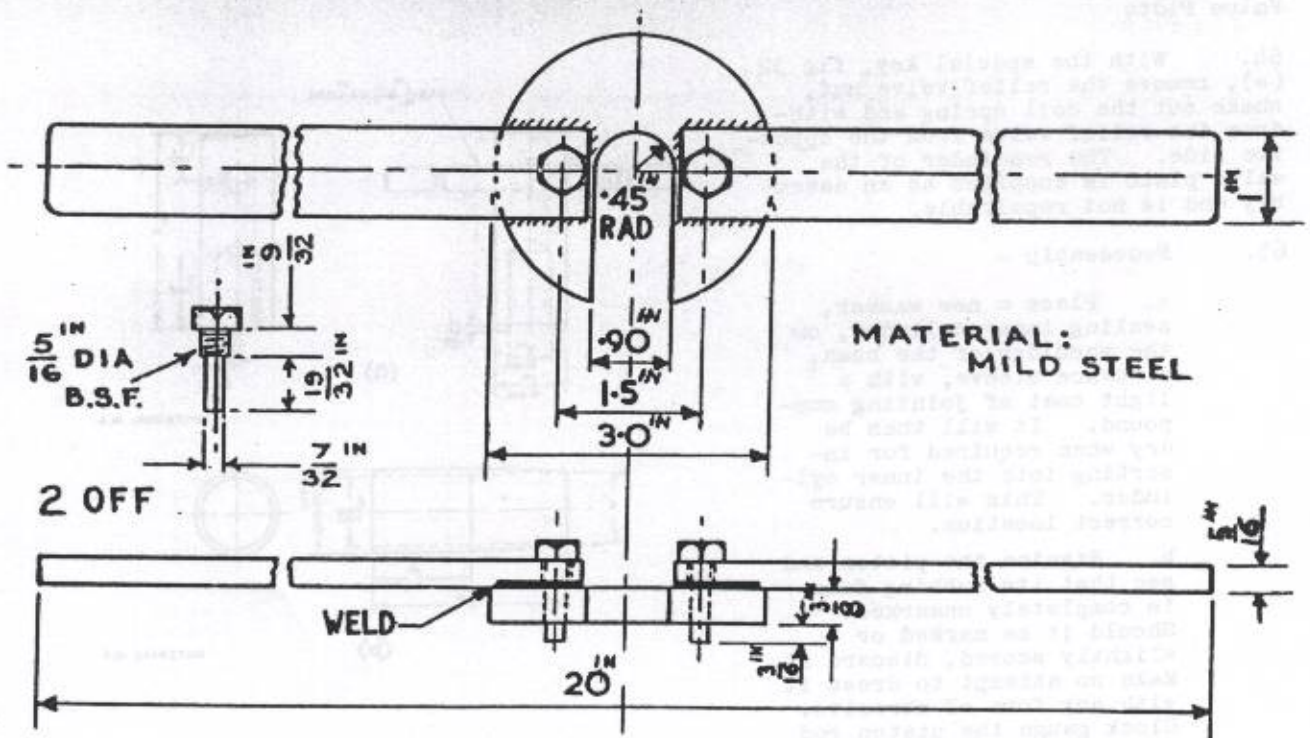

FIG 33 - SHOCK ABSORBER - PEG SPANNER FOR NUT, RETAINING GLAND (LOCAL MANUFACTURE)
- c. Remove the grubscrew from the nut retaining the piston rod bush. Unscrew the nut, fig 33. Remove the seal (dust) and the flat washer.